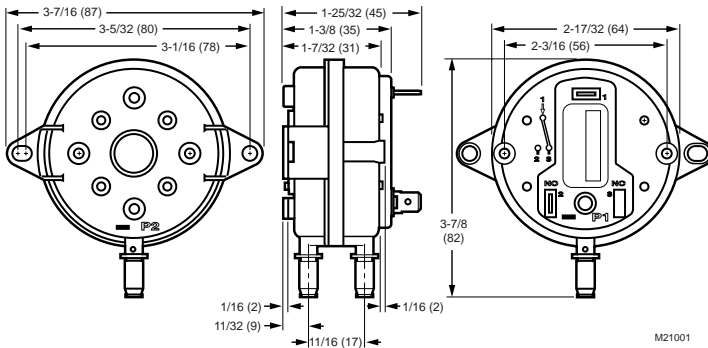

Fig. 1. Dimensions of foot-mounted IS2 Pressure Sensing Switch in in. (mm). Differential model shown.
**Dimensions:** For typical dimensions, see Fig. 1 through 10.